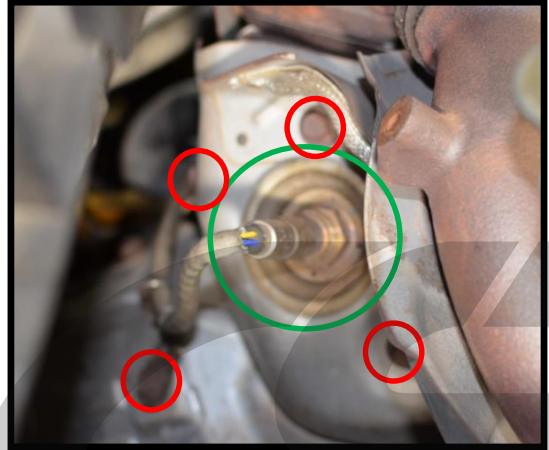

Figure 6a
- a) Remove the upper oxygen sensor using an oxygen sensor socket and ½" drive ratchet. **Circled in green in Figure 6a.**
- b) Remove the four 10mm bolts **circled in red in Figure 6a.** Then, remove the heat shield covering the downpipe nuts.